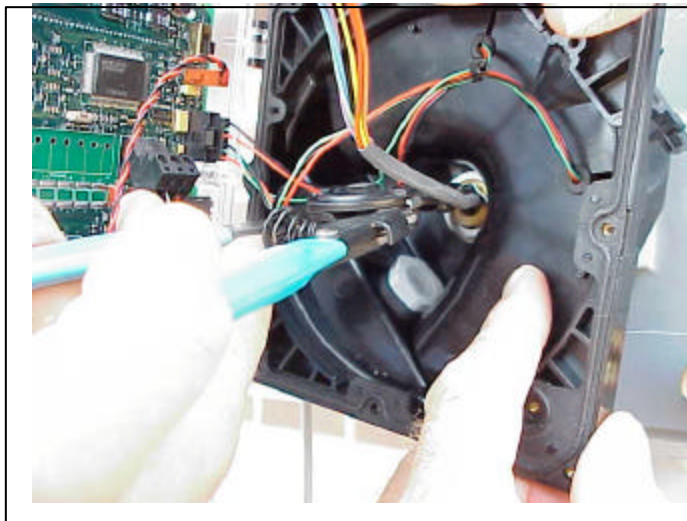

Figure 7.11 Snap Ring Replacement
12. Replace the top Teflon washer over the meter housing shaft on the new index housing and Install retaining ring to secure the new index head to the meter. **See Figure 7.11**